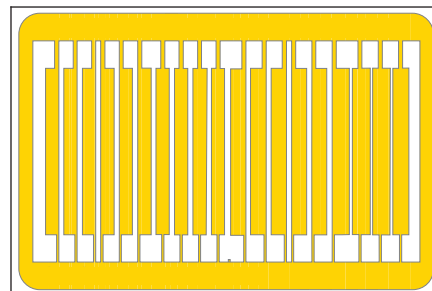

Figure 2 Select a replacement contact that matches.
8. Select a new edge contact that most closely matches the edge contact to be replaced. (See Figure 2.)